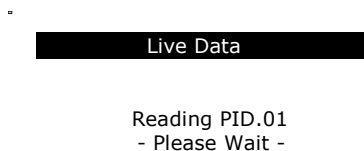

Figure 5.10
- 2) Wait a few seconds while the scan tool validates the **PID MAP**. (Figure 5.10)